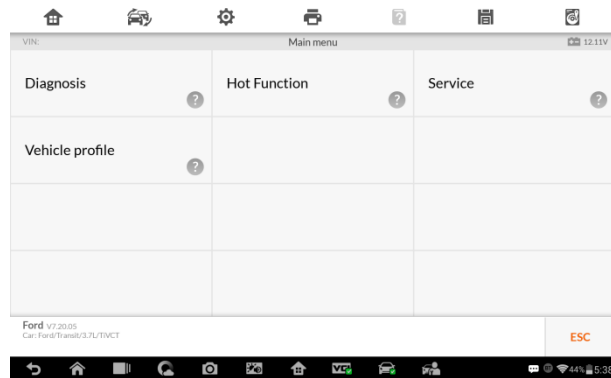

Figure 4-3 Sample Vehicle Diagnostics Screen
5. Tap **Done**. The vehicle will be identified in a few seconds, and once the matching is successful, the system will guide you to the Vehicle Diagnostics screen directly (*Figure 4-3*).